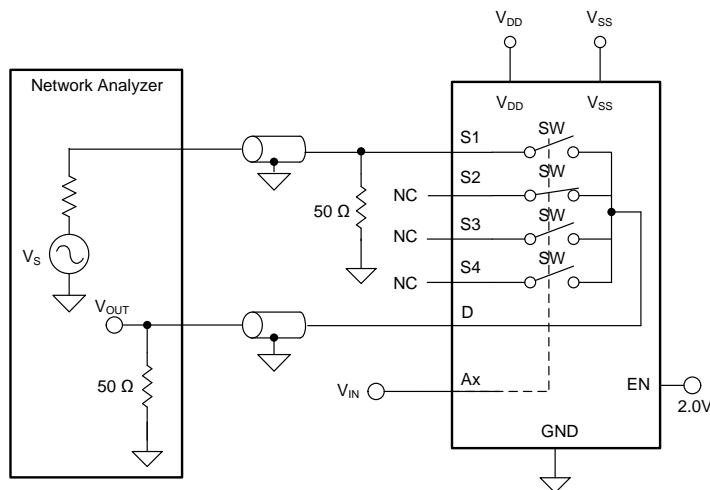

图 24. Off Isolation Measurement Setup
Off isolation is defined as the voltage at the drain pin (D) of the TMUX6104 when a 1-VRMS signal is applied to the source pin (Sx) of an off-channel. 图 24 shows the setup used to measure off isolation. Use 公式 2 to compute off isolation.